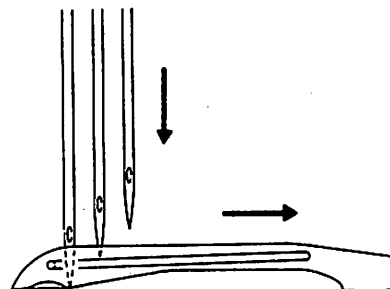

Fig.49
- 2) Level with looper's lower edge for 3-needle machines. (Fig. 49)